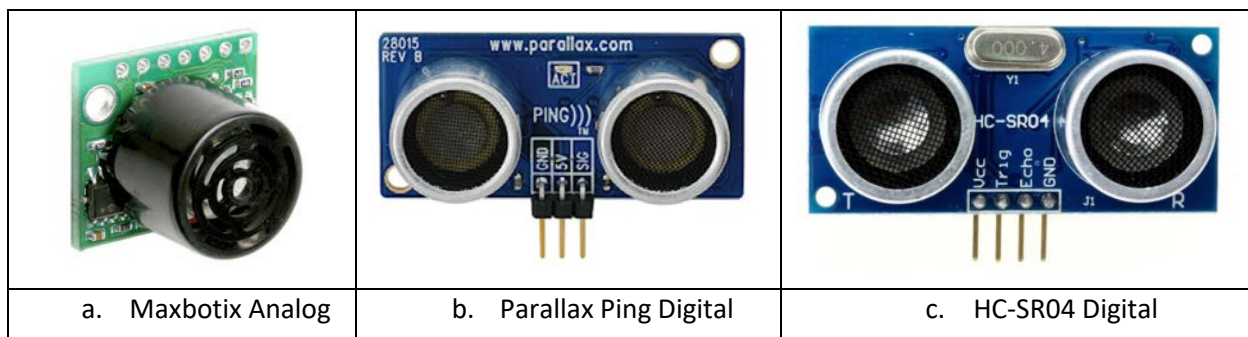

Figure 3: Sonar Sensor Types
2. Attach at least one digital sonar sensor to your robot and connect the white signal line to one of the analog pins on the microcontroller (A0-A15). *Note that you can use the analog pins whether you have a digital or analog sonar sensor.* **Connect the black wire to the ground buss (blue line) on the breadboard. Connect the red wire to the 5V buss (red line closest to power switch) on the breadboard. BE CAREFUL! If you connect the sensor to the wrong power buss you could damage it!** Figure 3 shows the pinout for the various sonar sensors. For now, use masking tape to attach the sensor, after you are sure where you want to mount it, go see the ECE technicians to permanently mount it if you don't have a screwdriver, screws, or the required holes in the chassis. If you have a sensor with 4 pins, simply tie the trigger and echo pins together. You may want to put the sonar to point over the front corners of the robot to cover the blind spots.